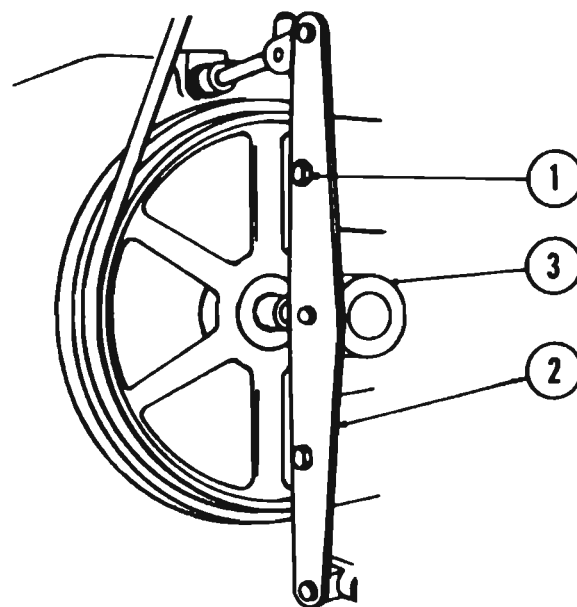

Fig. 102
- Remove Nut and Bolt (1, Fig. 102) from Feed Arm Assembly (2).
- Disengage Feed Arm Assembly from Trunnion (3) by springing the feed arms apart and lay it back against belt guard.